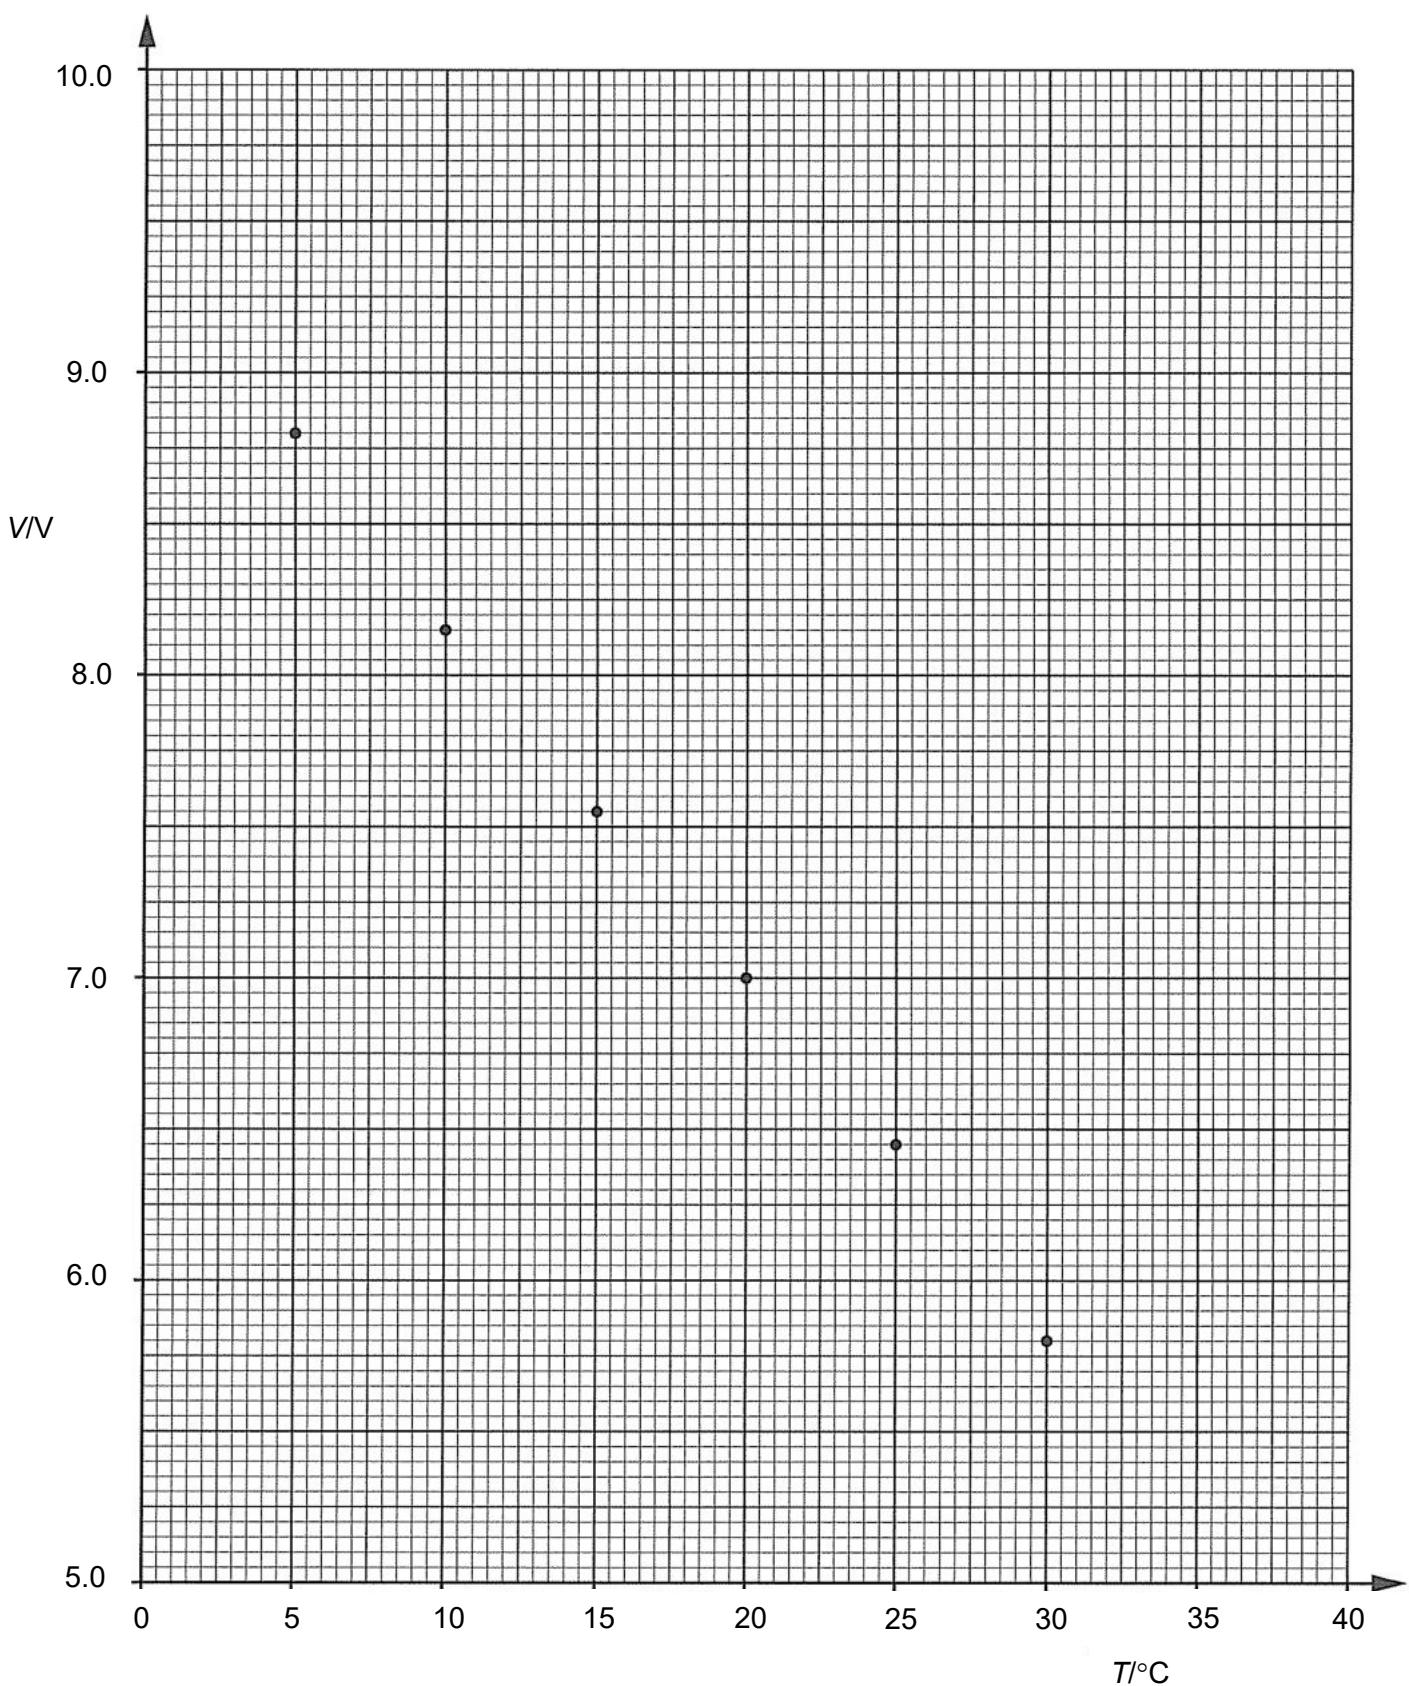

Fig. 8.2
- (iii) Fig. 8.2 shows the variation with temperature T of the open circuit voltage V. Draw the line of best fit. [1]
- (iv) Use Fig. 8.2 to determine the constants μ and T_R .